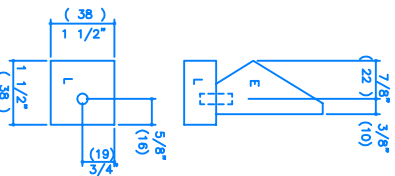

FIGURE 5
- 3) To attach the parts of the pieces together, drill the pieces to a depth of 3/8" with a depth gauge (Illustration 1 and a 1/4" drill bit. The holes should be drilled in the centre of each piece, with the exception of pieces E and L. Drill these pieces as shown (Fig 5); you can use a vise, or clamp them to the work table to hold them steady. You prevent injury. Attach together with the wood glue. All pieces you prevent the wood in glue before finishing in the holes. All assemblies are drilled and glued in a similar fashion (Fig 6).